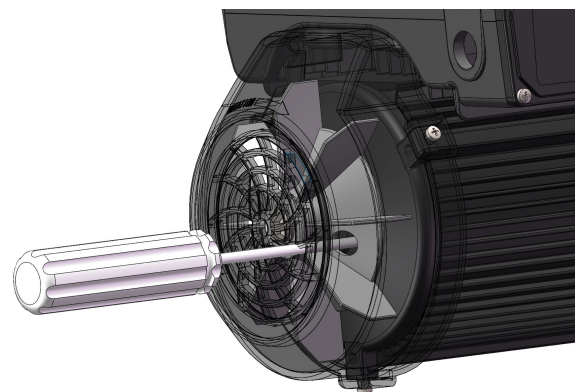

Figure 8
6. To unscrew the impeller(#8) from the shaft, place screwdriver in rear motor housing to prevent fan/shaft from spinning and rotate the impeller off shaft. See Figure 8.